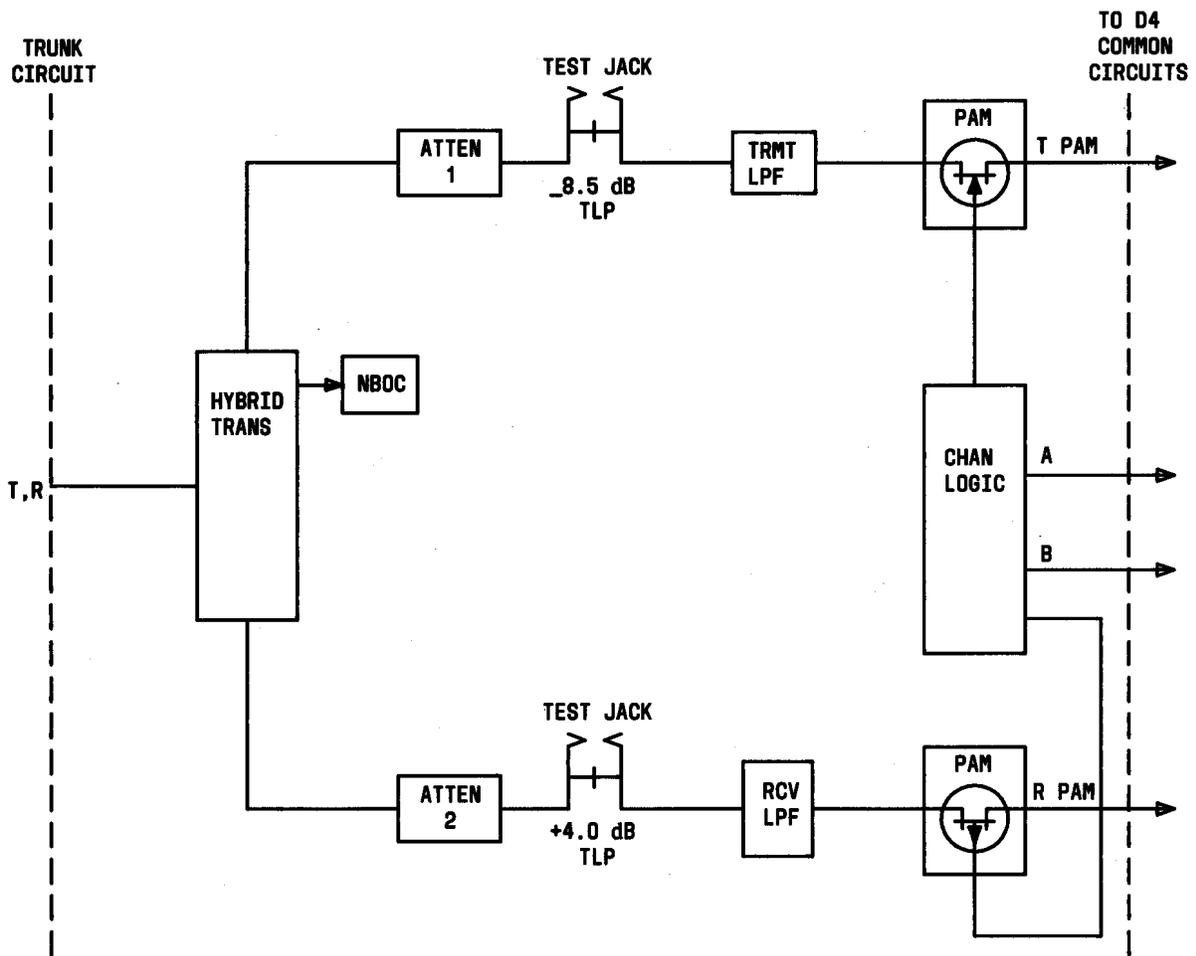
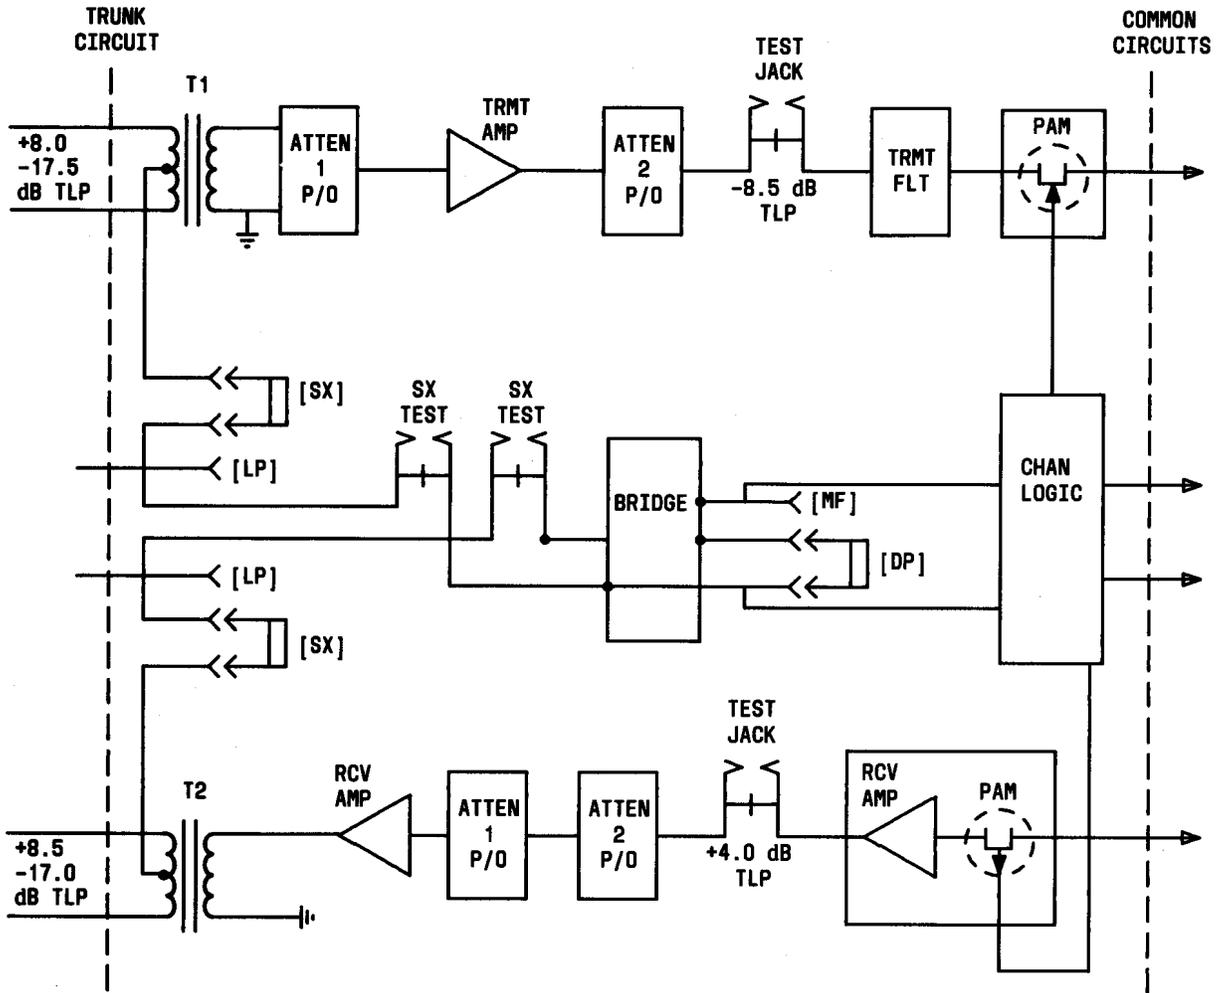

Fig. 4—Transmission Paths Dial Pulse Channel Units
Fig. 5—Transmission Paths 4LSXO Channel Unit
2.06 The transmission of channel units DPO, DPT, SDPO, and DPMO is basically the same. The transmitting and receiving logic of each unit follows the identical steps to perform its functions. Figure 4 is a typical block diagram which is applicable to each of these four channel units. The 4LSXO is illustrated in Fig. 5.